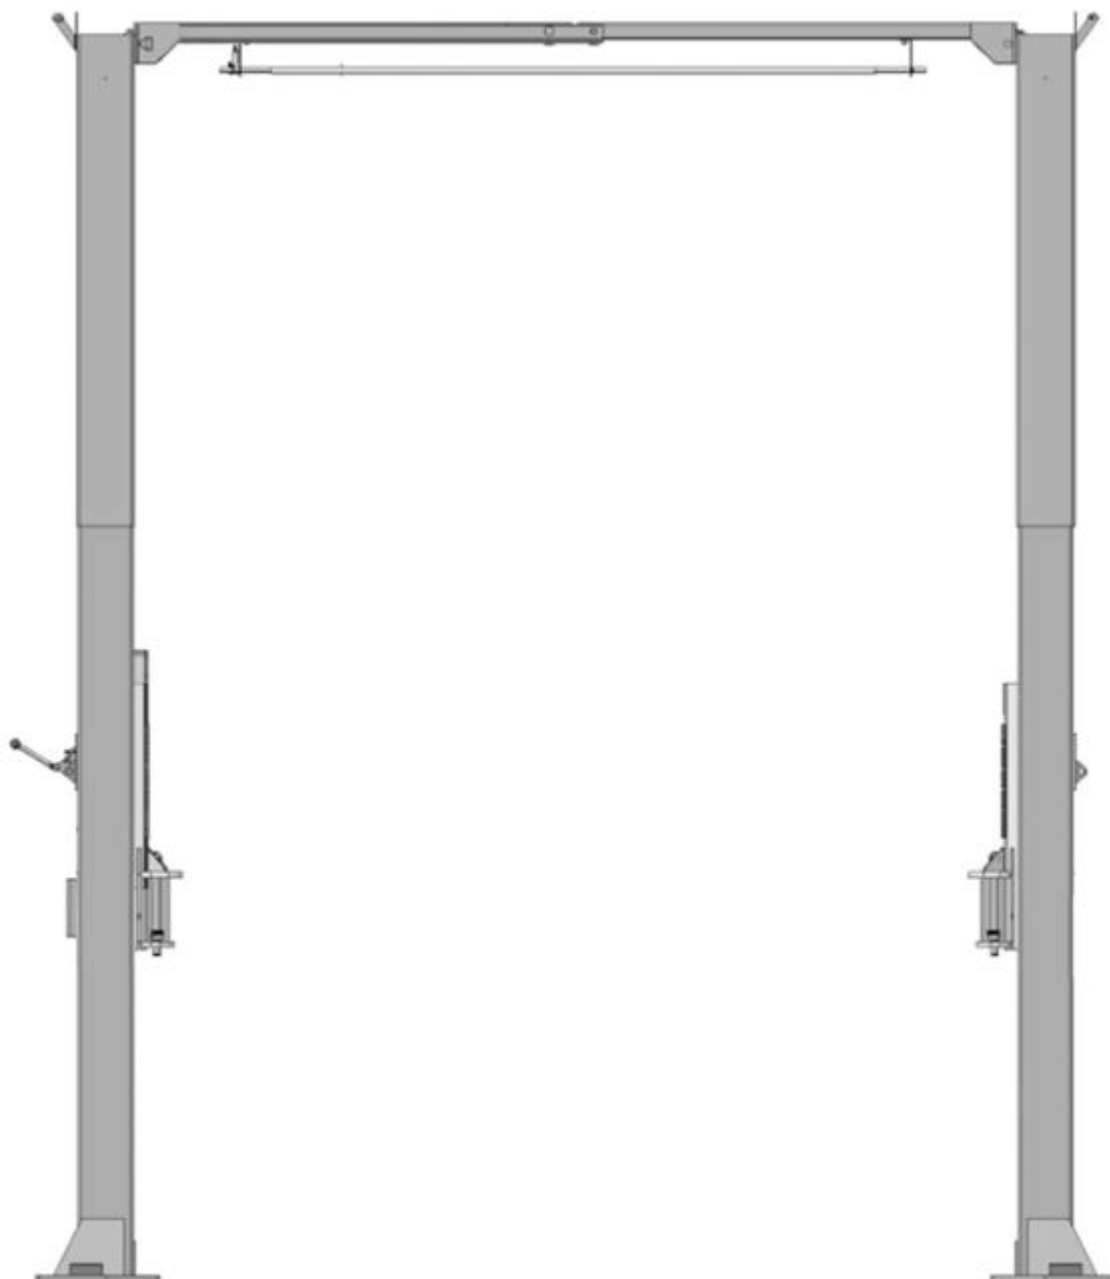

Fig. 24
J. Lift the carriages up and make them be locked at the same level (**See Fig. 24**).